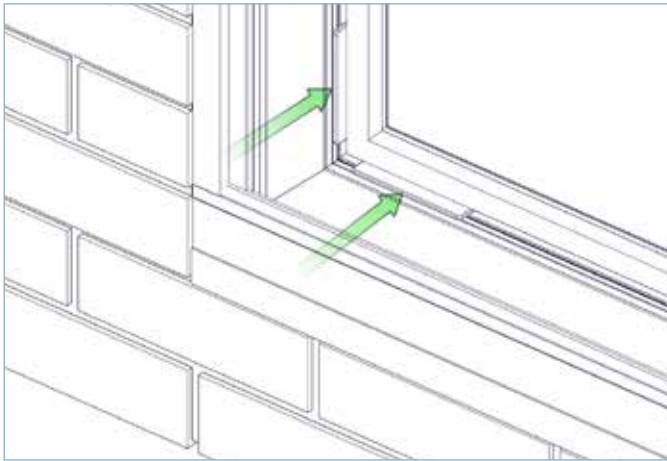

FIG 11B
- ▶ **11.5.** Insert another 4mm packer (32mm wide minimum) to the side of the glass diagonally opposite the toe and heel plate about 50mm up from the corner, making sure to support the inner and outer layers of the glass, as shown in FIG 11B.
- ▶ **11.6.** Using a glazing paddle at the bottom, lift the glass and turn the packer which is diagonally opposite the toe and heel plate so it is in line with the glass, making sure inner and outer layers are supported, as shown in FIG 11B.